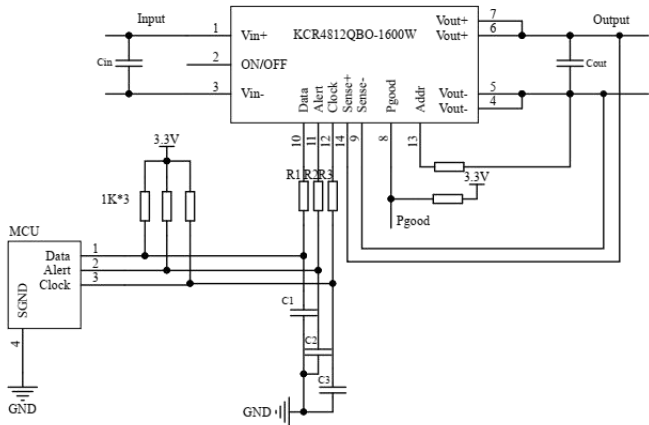

Fig. 2
① All output characteristics are tested in accordance with Design Reference Fig. 2;